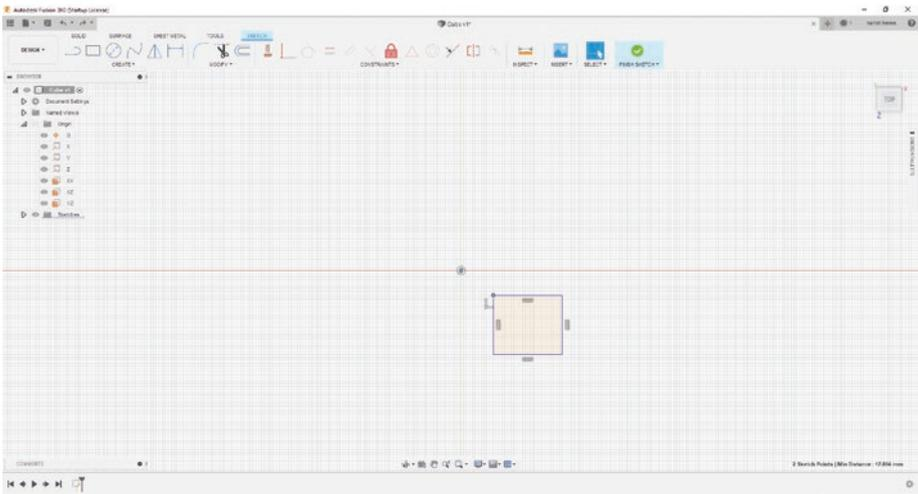

Figure 3-43. Left-click a single point on the rectangle and a point on the origin
- Click a single point of your sketch and the origin. See Figure 3-43.